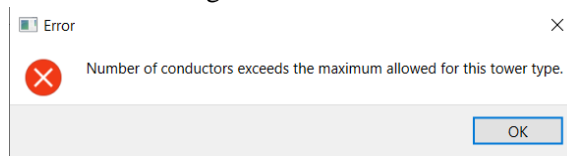

Figure 4: Error Message
- iii. Depending on the selected tower type, the number of conductors in the bundle is checked according to restrictions, and an error message is given. It can be seen in Figure 4.